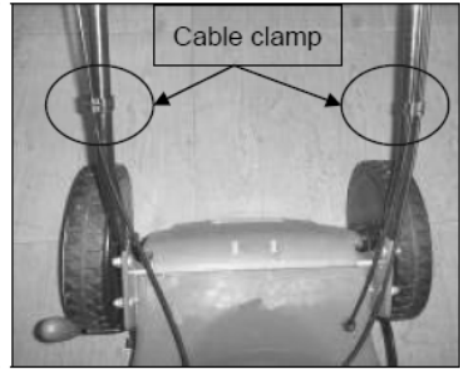

Fig. 2C
4. Adjust the tension by turning the lock nut with a suitable spanner. (Fig. 2C)